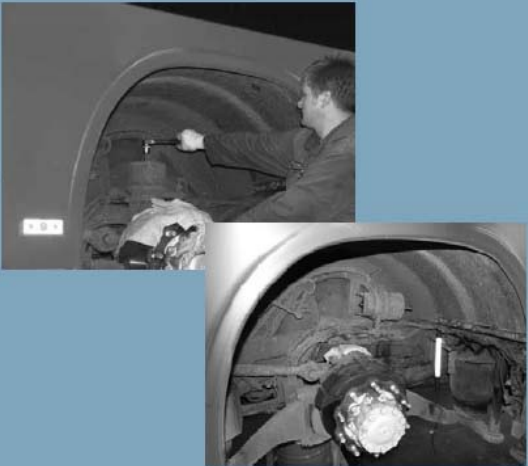

Figure 8 - Removal of Brake Chambers
1.9. Removal of the brake chambers left and right side (see Figure 8).